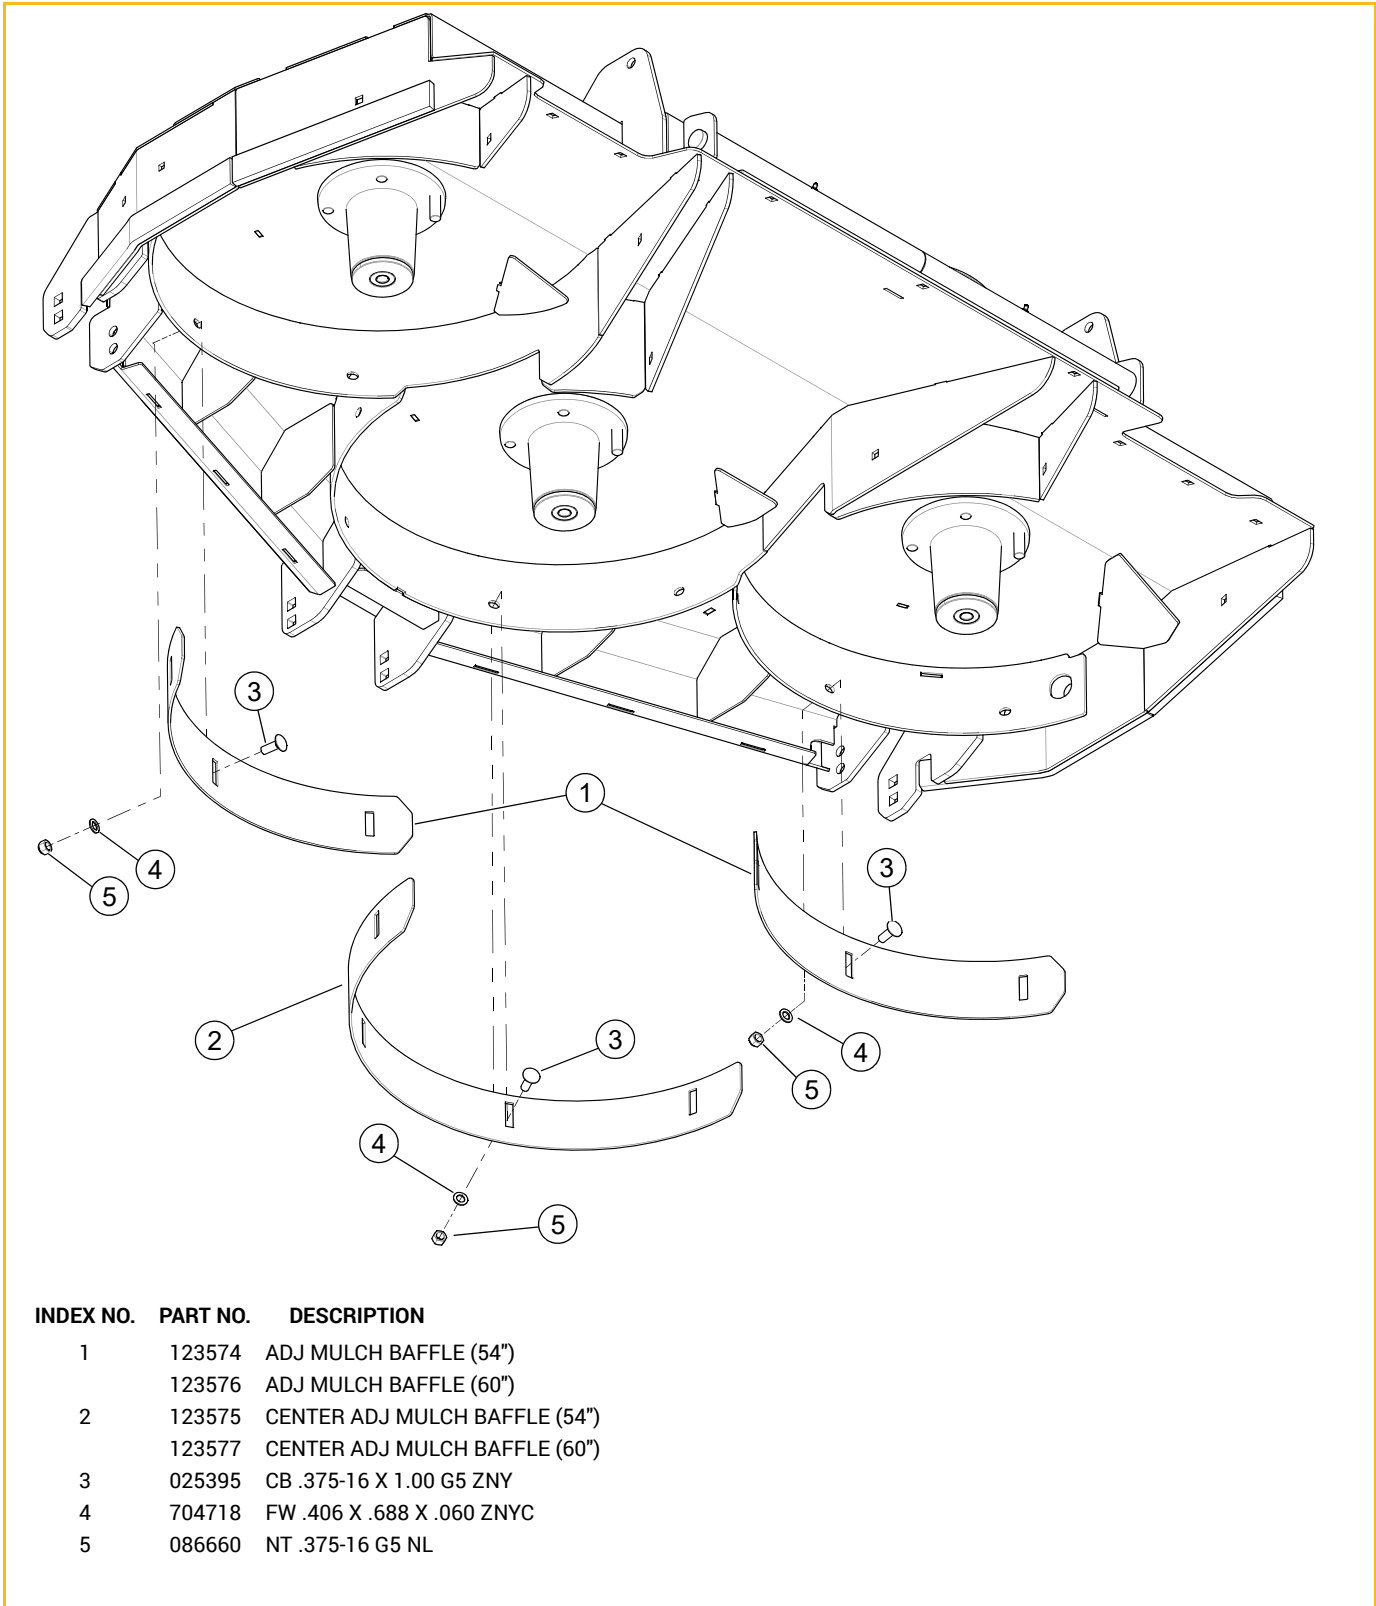

FIG. 5
8. Attach the left side and the right side adjustable baffles to the front wall wrappers (welded to the deck) using the provided hardware as shown. The baffles should extend 1/2" beyond the wrappers. (FIG. 5)
9. Attach the center adjustable baffle to the front wall wrapper (welded to the deck) using the provided hardware as shown. The baffle should extend 1/2" beyond the wrapper. (FIG. 5)
4. Remove the center adjustable baffle and the left and right side adjustable baffles from the underneath side of the deck. (FIG. 5)